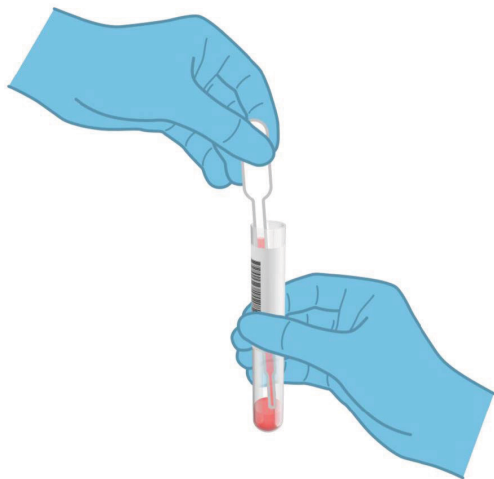

Figure 20. Drawing up sample into the supplied transfer pipette.
5. Open the tube with the sample to be tested. Use the supplied transfer pipette to draw up fluid to the third fill line on the pipette (i.e., 300 μ l) (Figure 20, next page).